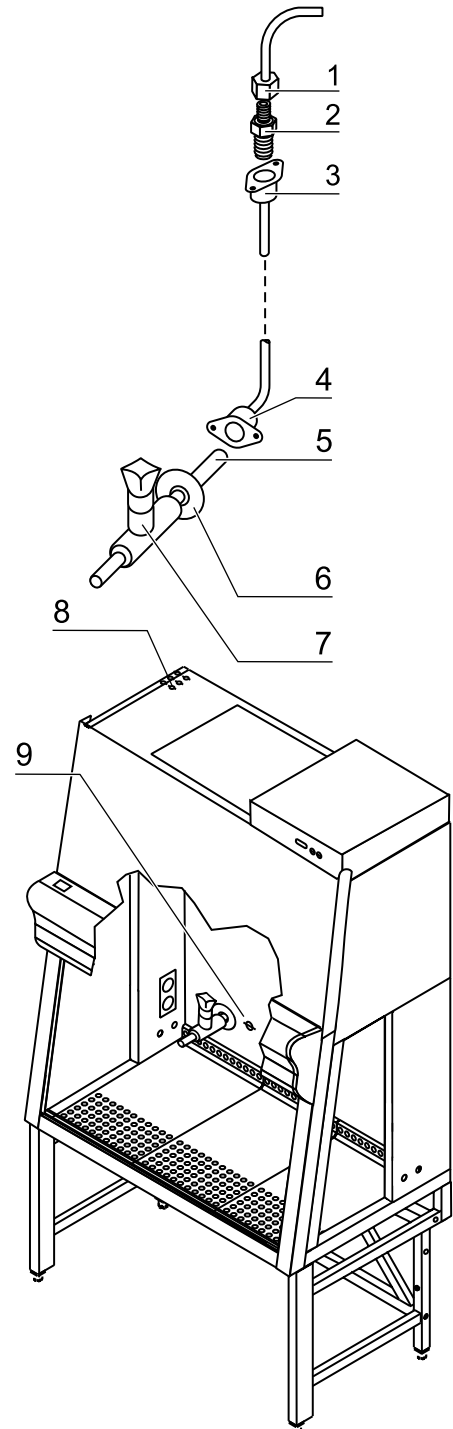

Fig. 7,
3. **Fig. 7:** Unscrew the plug from the supply line at the rear panel of the sample chamber [9].